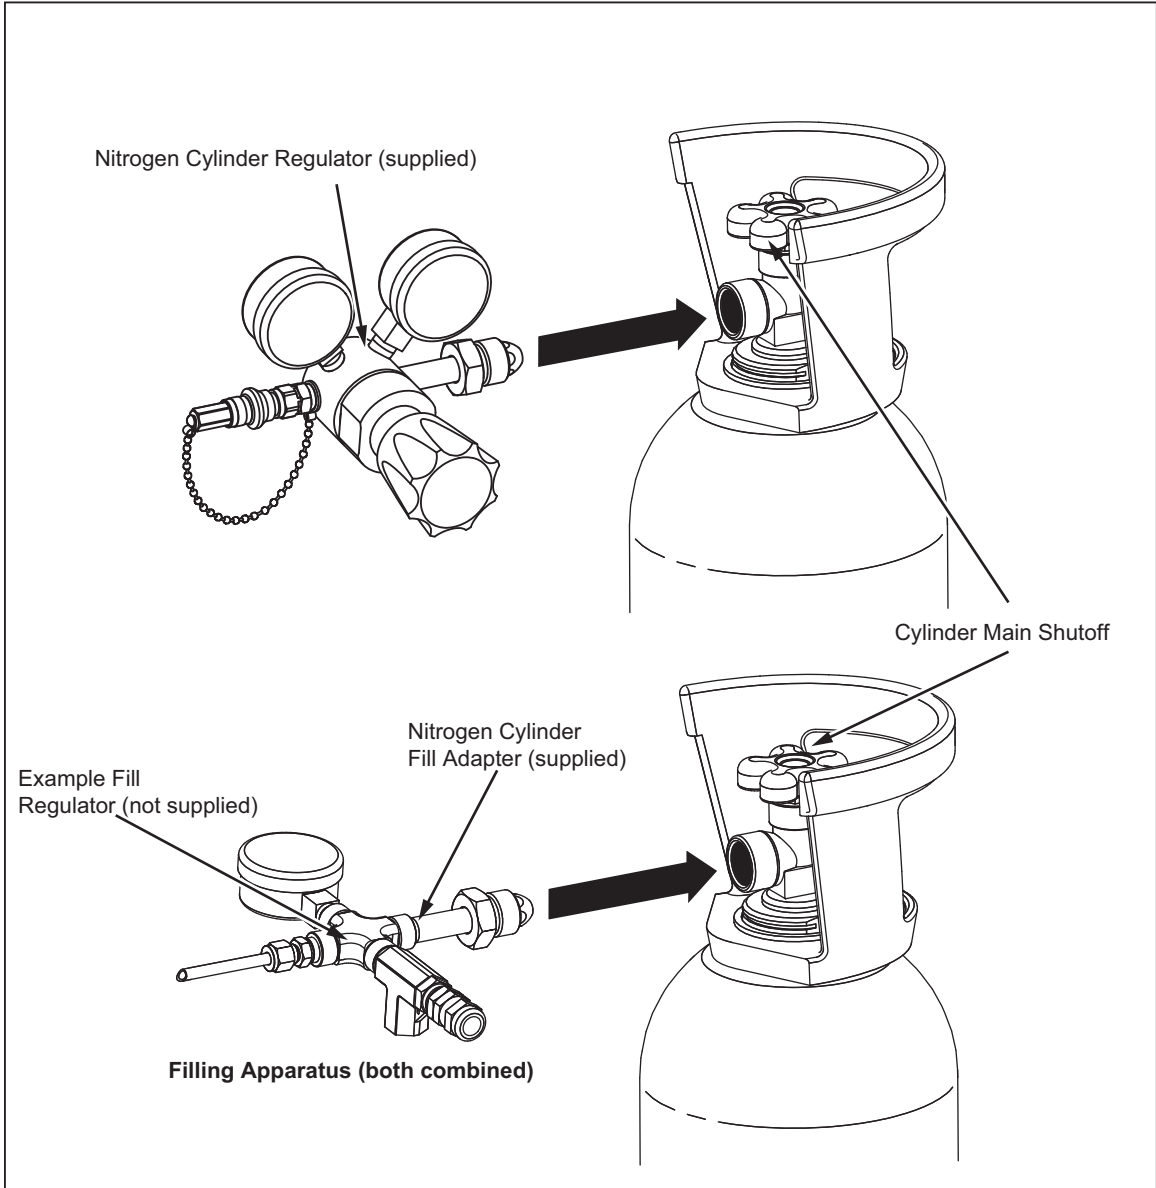

Figure 6-2. Nitrogen Fill Adapter
Recharge the Cylinder with nitrogen as follows (see Figure 6-2):
2. Connect the fill adapter to the Cylinder. Remove the Nitrogen Cylinder Regulator if it is installed. See Figure 6-2.